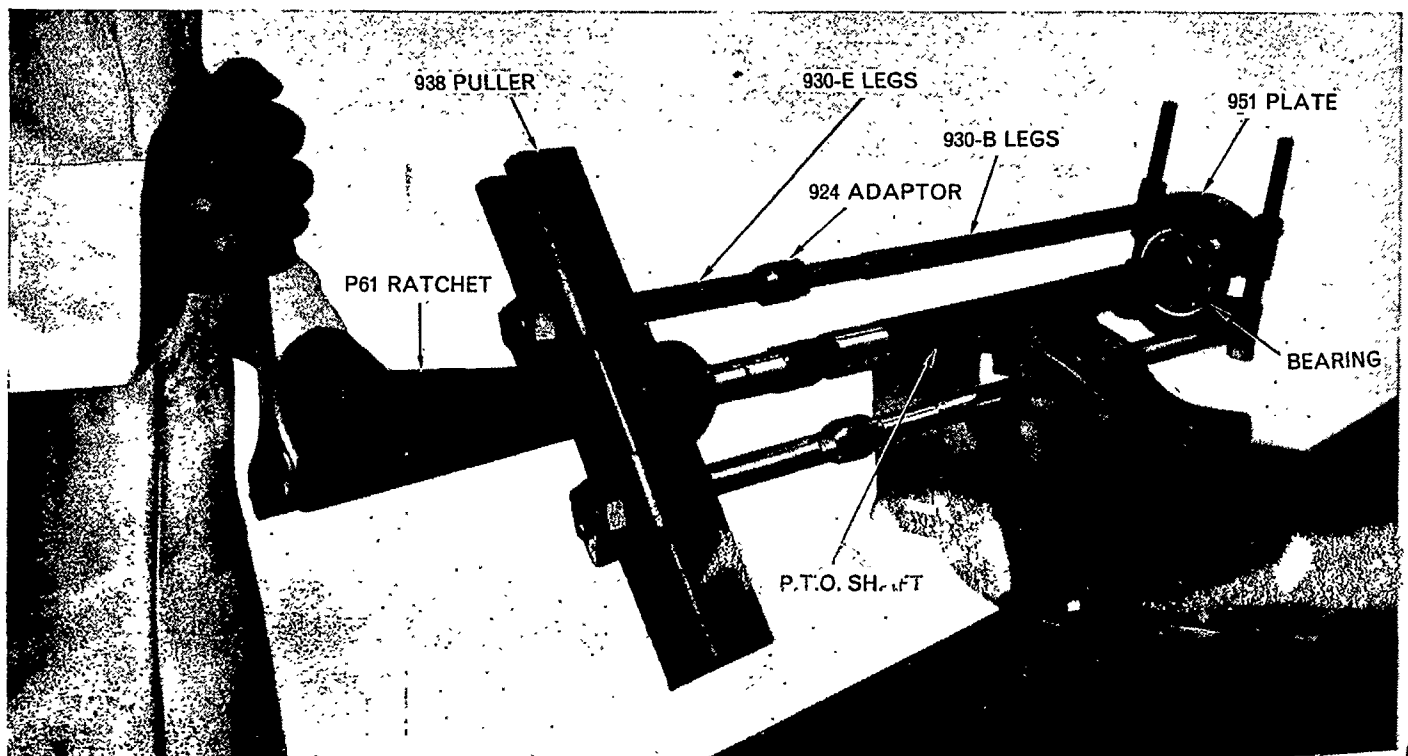

Figure 19
2. Using Tools 924, 930-B, 930-E, 938, 951 and P-61 install the bearing, Figure 19.